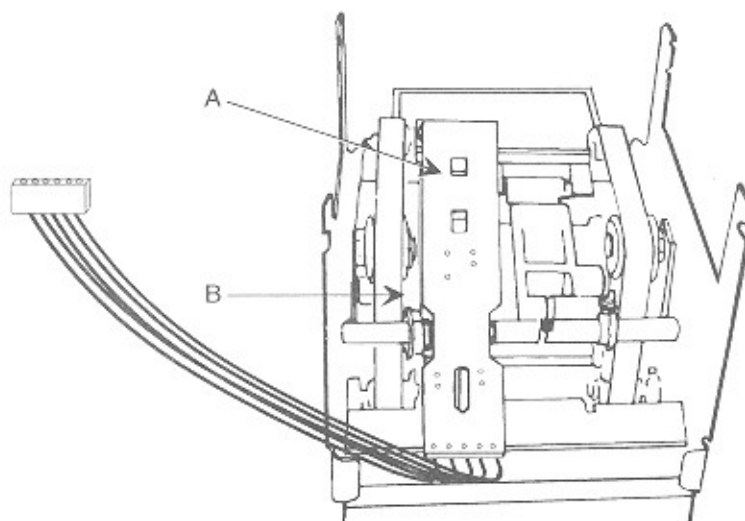

Figure 4-10B. Mounting the Cell Assembly
3. Check to see that the catch is hooked over the board (A) and the board is setting in the recessed area on the shaft (B). See Figure 4-10B.